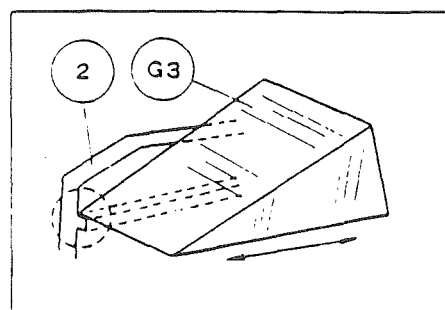

Fig. 31
- 2) If, in this case, such a center displacement cannot be corrected by moving the lens chamber ③, make adjustment of prism ③, as below:
- a) For lateral adjustment, place a piece of silver foil (0.1mm thick) underneath, as shown in Fig. 31, to cause a movement corresponding to 5 scale lines.
- b) For vertical adjustment, move prism ③ along the wall of prism mount ②, as shown in Fig. 31.